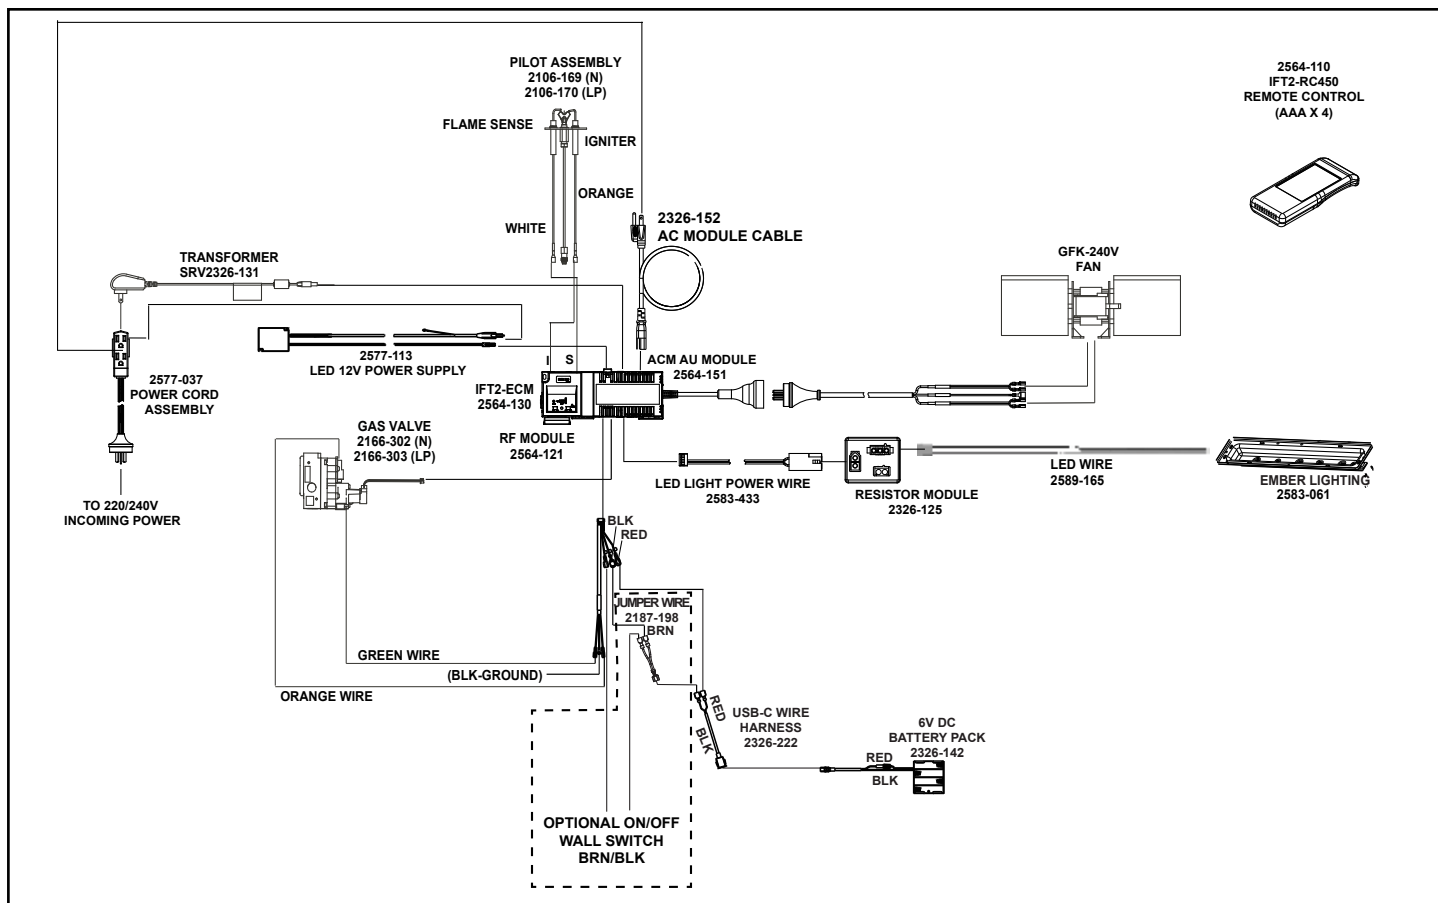

Figure 8.2 IntelliFire Touch Wiring Diagram with Remote
- Refer to Figure 8.2, IPI Wiring Diagram.
Use of the fan requires that the Junction cord (factory installed) be connected to 220/240 VAC service before permanently enclosing the heater. The service cord is found on the right exterior side of the appliance. See Figure 8.2 for wire connection detail.